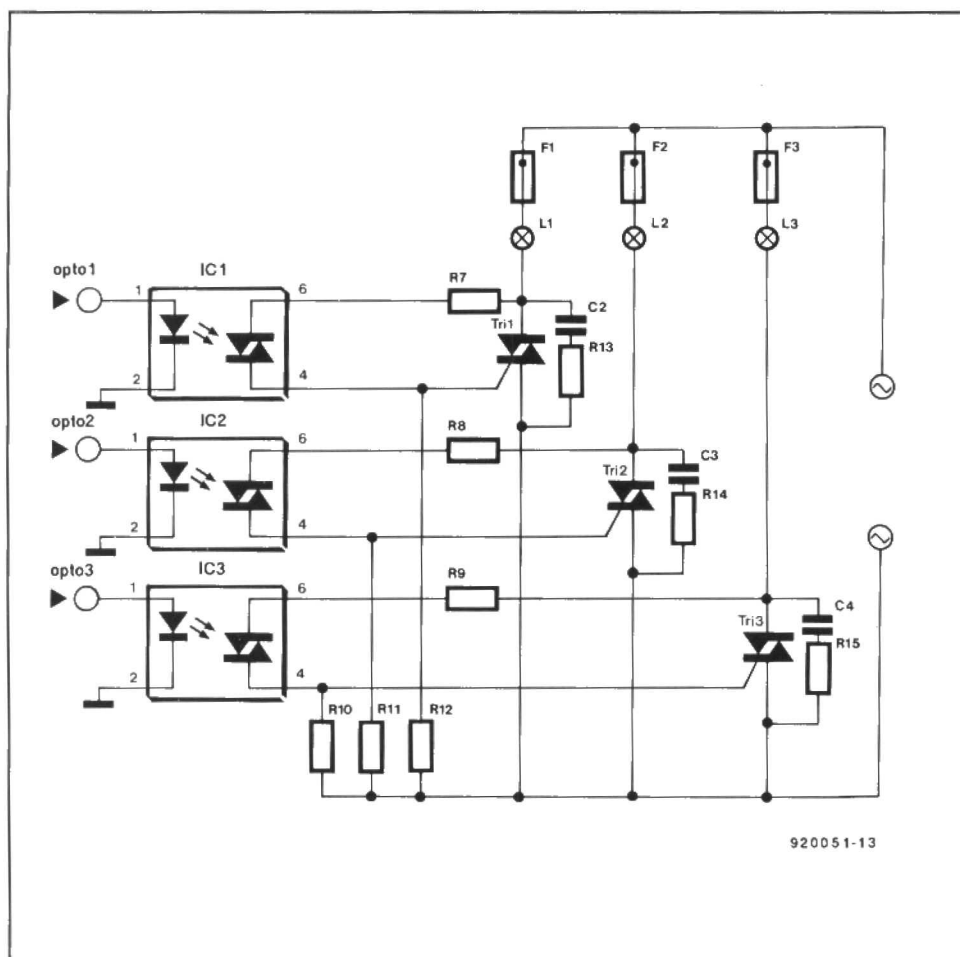

Fig. 2. Automatic/manual control circuit.
The pulse generator is built around a Type 4047 monostable/astable multivibrators shown in Fig. 2. Three different clock signals are available: (a) at pin 13 (oscillator output); (b) at pin 10 (Q); and (c) at pin 11 (Q̄). The pulse width (on-time) is controlled through an RC circuit connected between pins 1, 2, and 3.
The circuit in Fig. 2 is best constructed on an individual small PCB. The location of photovaristor  $R_{16}$  depends on individual requirements. Adjust  $P_2$  for the desired level of 'darkness' as indicated by the lighting of  $D_0$  (and the relay changing state). The pulse width is controlled by  $P_1$ , which is normally set for a value of 330 ms ( $\approx 3$  Hz).